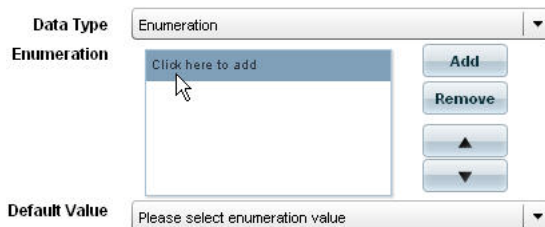

FIG. 375 Adding an Enumeration Entry
5. Click **Add** to insert a new (empty) entry into the Enumeration list (FIG. 375):